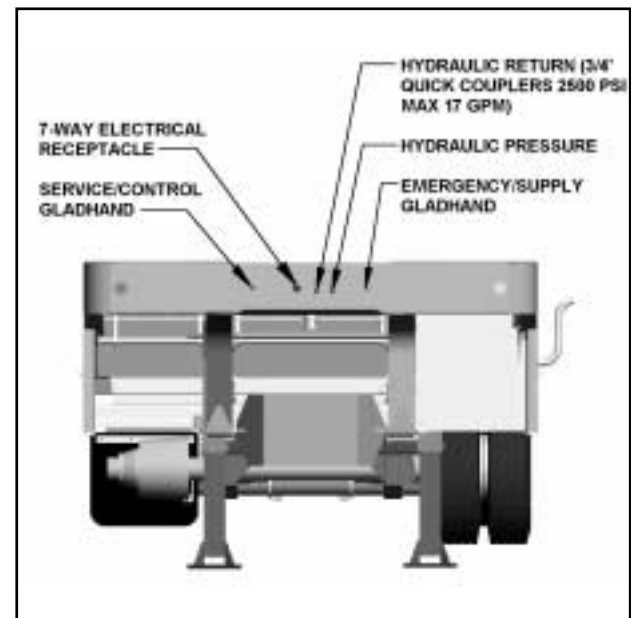

Figure 3-3 Service Hookups
3-2.3 Connect the service and emergency air hoses of the towing vehicle to their respective gladhand on the front of the semitrailer; red emergency line to the gladhand with the "EMERGENCY" tag, and the blue service line to the gladhand with the "SERVICE" tag (**See Figure 3-3**). Check the semitrailer wheels before activating the semitrailer air supply valve in the towing vehicle. Set the parking brakes.
- 3-4.1 Connect the towing vehicle 7-pole electrical plug to the electrical receptacle on the front of the semitrailer (See **Figure 3-3**).